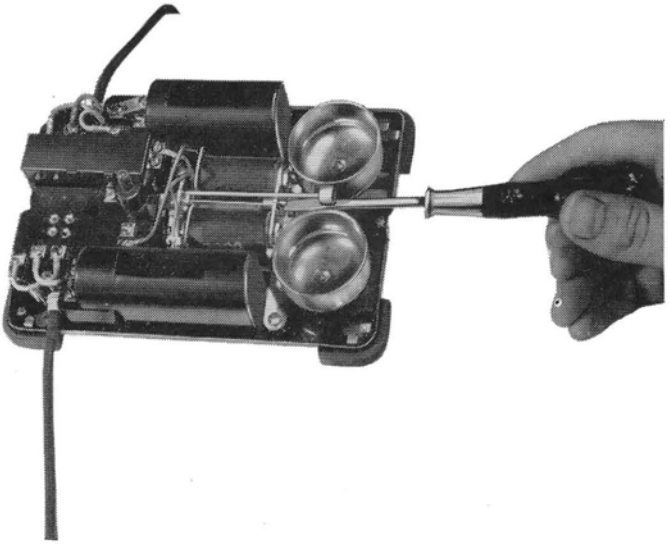
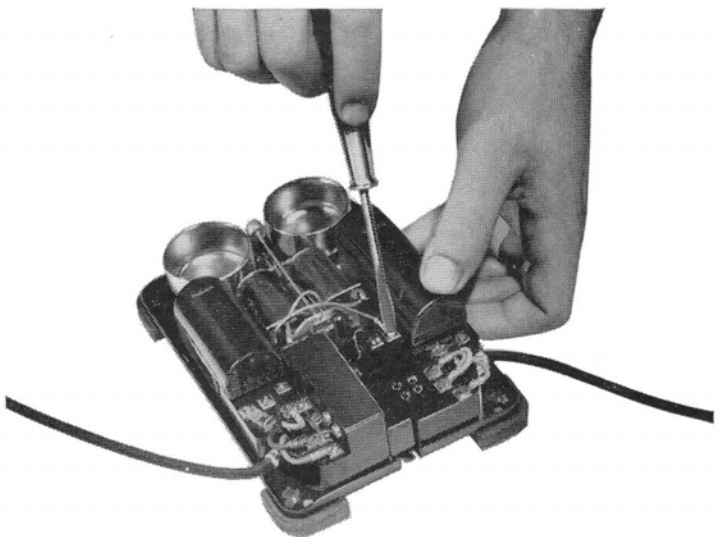

Figure 23 — Adjusting Tension on Biased Ringers
Figure 24 — Reversing Ringer Leads
Step 3—Adjust the tension on the biased ringers with a minimum amount of tension to prevent tapping (*see figure 23*).
Step 2—Reverse the ringer leads R1 and R2 on AC ringing systems (see figure 24) If this does not clear the trouble connect the ringer for the least objectionable tapping and increase the bias tension only to the point where bell tapping ceases (see figure 23).